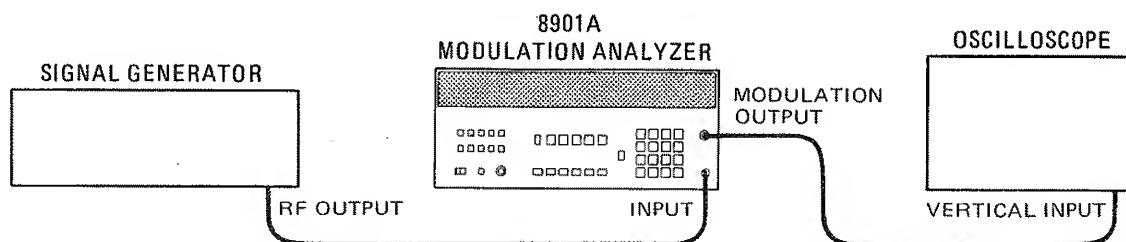

Figure 3-7. Basic Functional Checks Setup
5. Connect the equipment as shown in Figure 3-7.